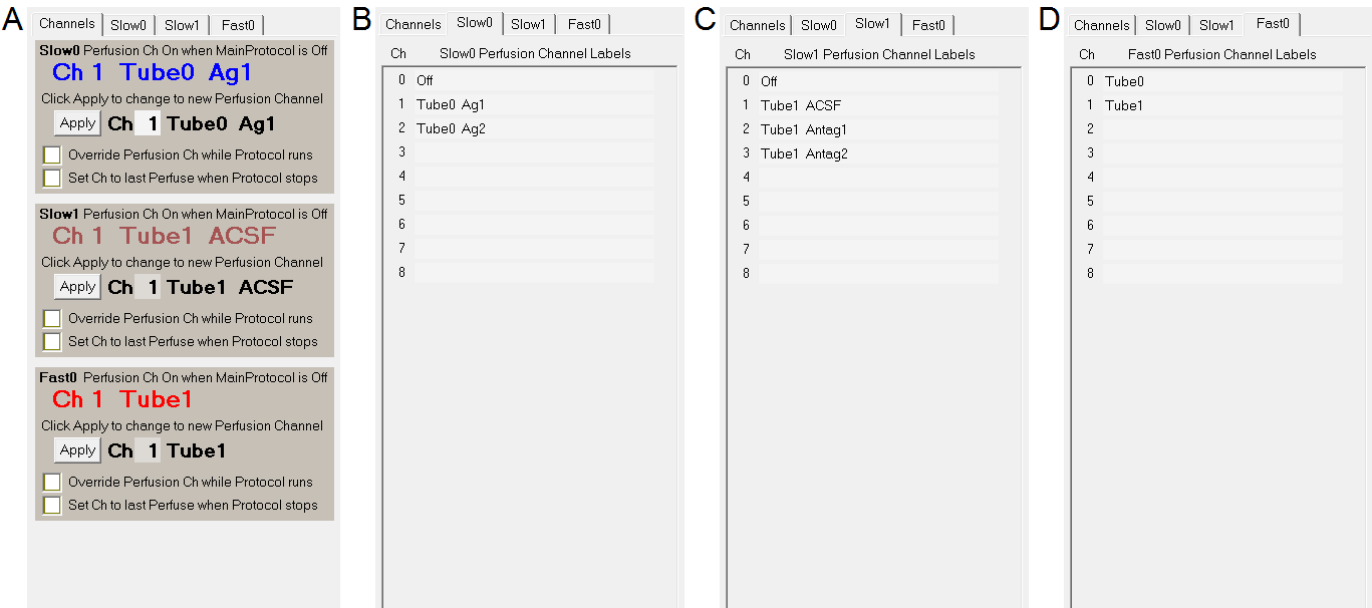

Fig. 9.4.1.3. Setting up the perfusion channel number and label information for the Dual-Line/Stepper example.
The way that WinLTP can control a Dual-Line/Stepper perfusion system is shown in Fig. 9.4.1.1. Slow0 Perfusion produces digital output on static Port1 to control one valve controller which in turn controls 4 to 16 valves. This Slow0 perfusion is for producing slow perfusion changes BETWEEN sweeps, and controls the perfusion solution coming out of Tube 0, which usually contains several **agonist** or agonist + antagonist test solutions.
Fig. 9.4.1.1. WinLTP control of Dual-Line perfusion and a Stepper. Slow0 and Slow1 Perfusion can control two valve controllers, and the Fast0 Perfusion controls the Stepper which controls whether solution from Tube 0 (blue) or Tube 1 (brown) is applied to the cell. The Fast0 Stepper therefore controls whether antagonist (Slow1) or agonist (Slow0) is applied.
Figs. 9.4.1.2, 9.4.1.3 and 9.4.1.4 show a simplified experiment involving only two tubes (Tube 0 controlled by Slow0 perfusion, and Tube 1 controlled by Slow1 perfusion), and a Fast0 controlled stepper to switch between Tube 1 and Tube 0.
Fig. 9.4.1.2. The ResourcesUsed tabsheet configured to run Dual-Line/Stepper perfusion. First choose how AO1 will be used. Next check the Slow0, Slow1 and Fast0 perfusion checkboxes. Finally choose the digital and analog output to control the Slow0 and Slow1 valve controllers and the Fast0 controlled stepper.
Next you have to set up the perfusion channel label information (Fig. 9.4.1.3, B-D). In the Slow0 (B), Slow1 (C) and Fast0 (D) channel labels, put in the appropriate perfusion channel labels. In this example, for Slow0 (the Tube 0 valve controller), the Slow0 Perfuse event in the Protocol Builder can either output agonist 1 or agonist 2 ('Tube0 Ag1' or 'Tube0 Ag2'). For Slow1 (the Tube 1 valve controller), the 'Slow1 Perfuse' event in the Protocol Builder can either output ACSF, antagonist 1 or antagonist 2 ('Tube1 ACSF', 'Tube1 Antag1' or 'Tube1 Antag2'). For Fast0, the stepper can switch between 'Tube0' or 'Tube1'.
Then in the Channels tabsheet (Fig. 9.4.1.3A), set which Slow0 and Slow1 perfusion channel will be on when the MainProtocol is off. Enter the Ch number by the 'Apply' button and then click the 'Apply' button. The perfusion channel number when the MainProtocol is off will be shown above the 'Apply' button plus the perfusion channel label. For Slow0 perfusion it is Ch 1 with a 'Tube0 Ag1' label. For Fast0, set which tube will be bathing the cell when the MainProtocol is off, in this case, Ch1 with a 'Tube1' label. Neither
Fig. 9.4.1.4 shows running the Dual-Line/Stepper example. The ‘Slow0 Perfuse’ and ‘Slow1 Perfuse’ events in the Protocol Builder (upper left) show when the Slow0/Tube0 and Slow1/Tube1 solutions are changed. The MainProtocol starts out with the ‘Slow1 Perfuse’ event making the Slow1/Tube1 controller switch to Ch2, ‘Antag1’ (which it already was), and with the ‘Slow0 Perfuse’ event making Slow0/Tube0 controller switch to Ch1, ‘Ag1’, and then switches to Ch2 ‘Ag2’. Then the ‘Slow1 Perfuse’ event switches to Ch3, ‘Antag2’, and with the ‘Slow0 Perfuse’ event switches to Ch1, ‘Ag1’, and then Ch2 ‘Ag2’.
Fig. 9.4.1.4. Running the Dual-Line/Stepper example. The 'Slow0 Perfuse' and 'Slow1 Perfuse' events in the Protocol Builder (upper left) show when the Slow0/Tube0 and Slow1/Tube1 solutions are changed. The upper right panel shows the Slow1 Tube1 switch from 'Ch1 ACSF' to 'Ch2 Antag1' to 'Ch3 Antag2'. The next panel below shows the Slow0 Tube0 switch between 'Ch1 Ag1' and 'Ch2 Ag2'. The 'Continuous Acquisition' and the 'P0 Stimulus Sweep Acquisition' panel show recordings of the AO1 voltage shifts changing to Ch1 Tube1 or Ch0 Tube0. This results in the solutions switching between Antag1, Ag1 Antag1, Ag2, then Antag2 Ag1 Antag2 Ag2. The Sweep Stimulation bottom panels show change of AO1 (ie IC1) voltage output during a sweep. The -1V means to take whatever the current Fast0 output is BETWEEN sweeps (and when the MainProtocol is off), ie 1V or Ch1. **See DualStepper.pro.**
The Triple-Line/Stepper example (Fig. 9.4.2.4) is also similar to the Dual-Line/Stepper example (Fig. 9.4.1.4) except that after Slow0 Perfuse Tube0 Ag1 and Ag2 are rapidly perfused onto the cell by the Fast0 stepper changing from Ch1 to Ch0 and back to Ch1, then Fast1 Perfuse Tube2 Ag3 and Ag4 are rapidly perfused onto the cell by the Fast0 stepper changing from Ch1 to Ch2 and back to Ch1.